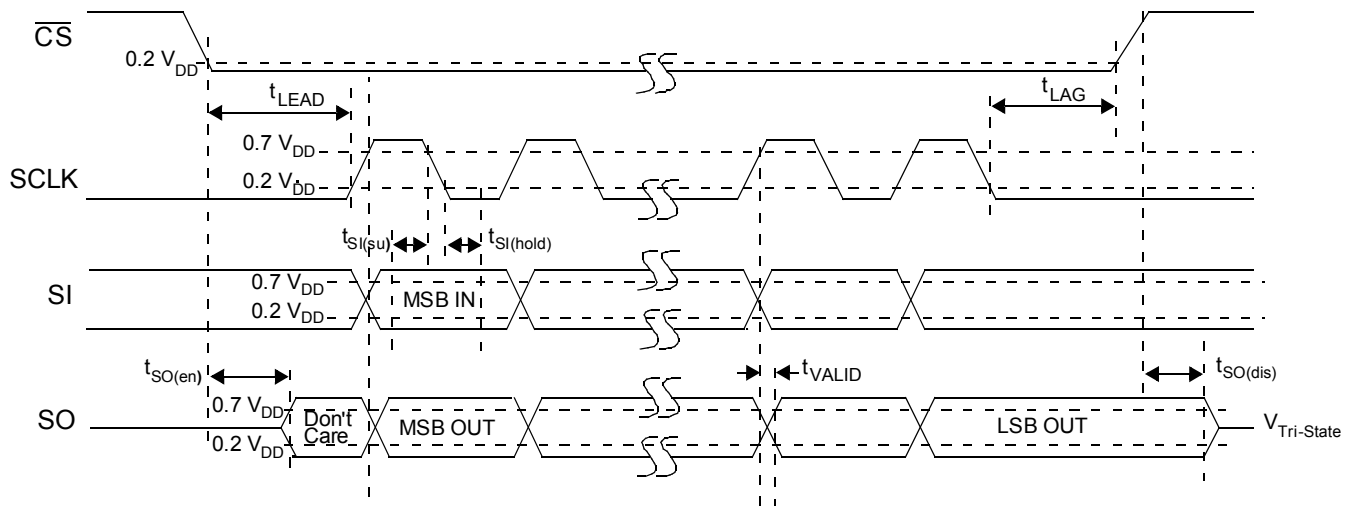

Figure 2. SPI Timing Characteristics
The Serial Input (SI) pin is used to enter one of seven serial instructions into the 33996. SI SPI bits are latched into the Input Shift register on each falling edge of SCLK. The Shift register is full after 24 bits of information are entered. The 33996 operates on the command word on the rising edge of  $\overline{CS}$ . To preserve data integrity, exercise care not to transition SI as SCLK transitions from high to low state (see Figure 2, page 8).